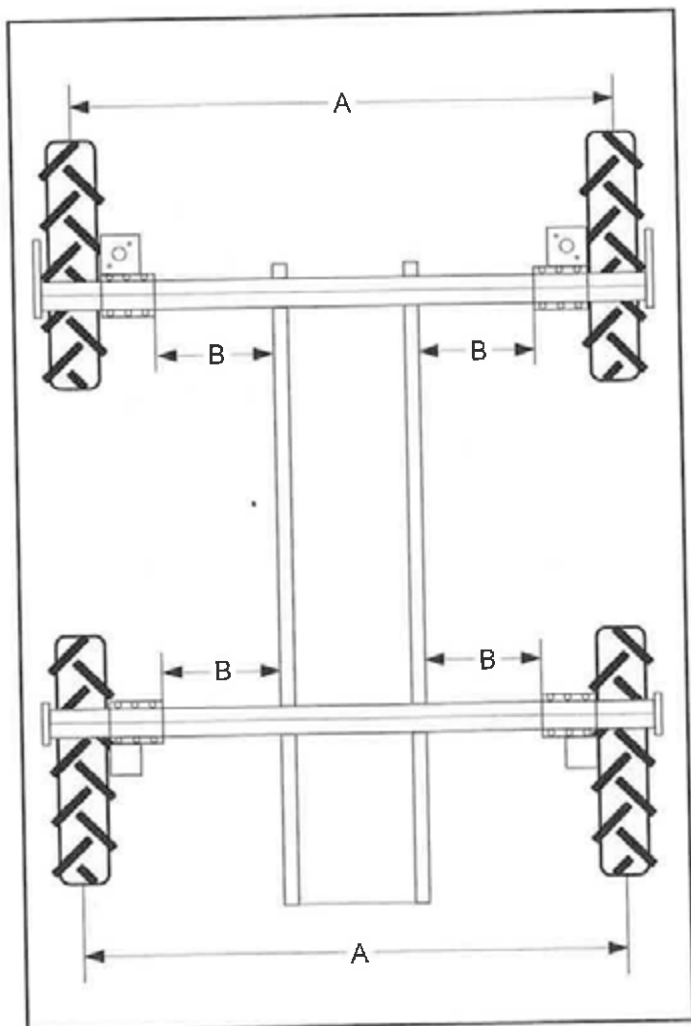

FIG 4.4
9. Repeat the above procedures to adjust and set the opposite side legs. When finished, all four legs should be the same distance from the mainframe (fig. 4.4, dimension B).